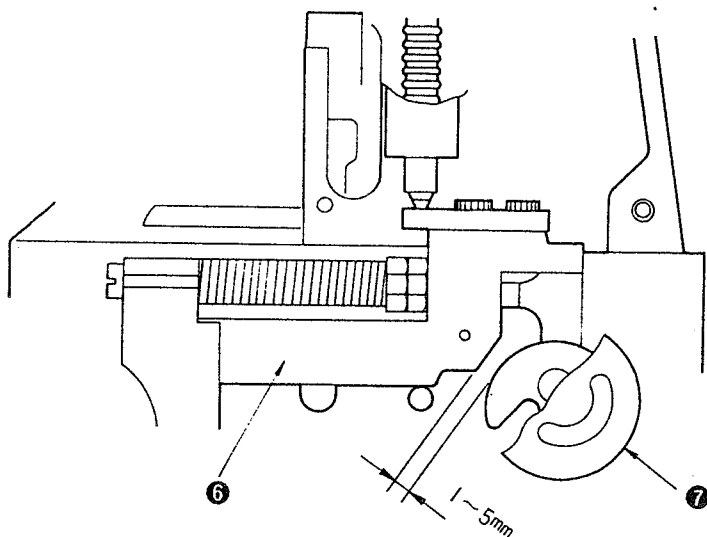

Fig. 43
2. Loosen screw ③ in the worm, and position worm ① so that the adjustment values described in "Standard adjustment" are obtained.
3. Press driving shaft spacer ⑤ against worm ① so that the worm comes in contact with needle bar frame cam ④. Then fix the worm eliminating an axial play.
4. When adjusting the worm, the clearance between stop-motion arm ⑥ and driving cam ⑦ becomes 1 to 5 mm before the machine enters the stop-motion state (when stop-motion arm ⑥ moves above driving cam ⑦) as illustrated in Fig. 43. Be sure to confirm that the said clearance is provided between the arm and the cam. Note that the clearance is desired to be smaller from the mechanical point of view though the acceptable range of clearance is 1 to 5 mm.